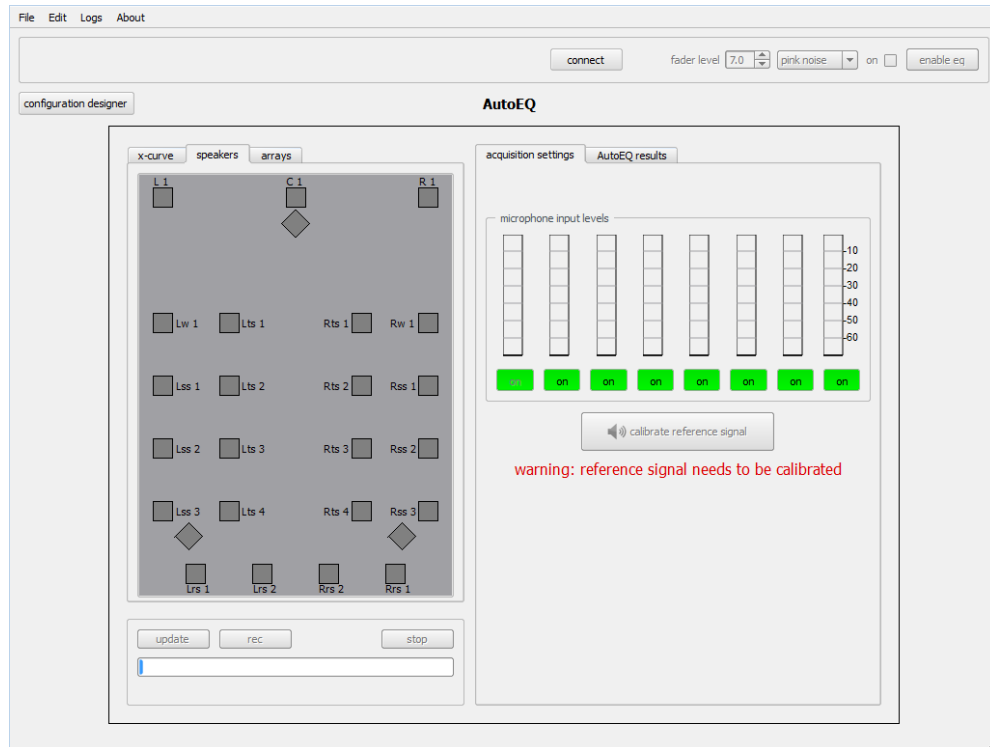

Figure 3-41 AutoEQ Screen
2. Click **run AutoEQ** to display the **AutoEQ** screen, as shown in Figure 3-41.